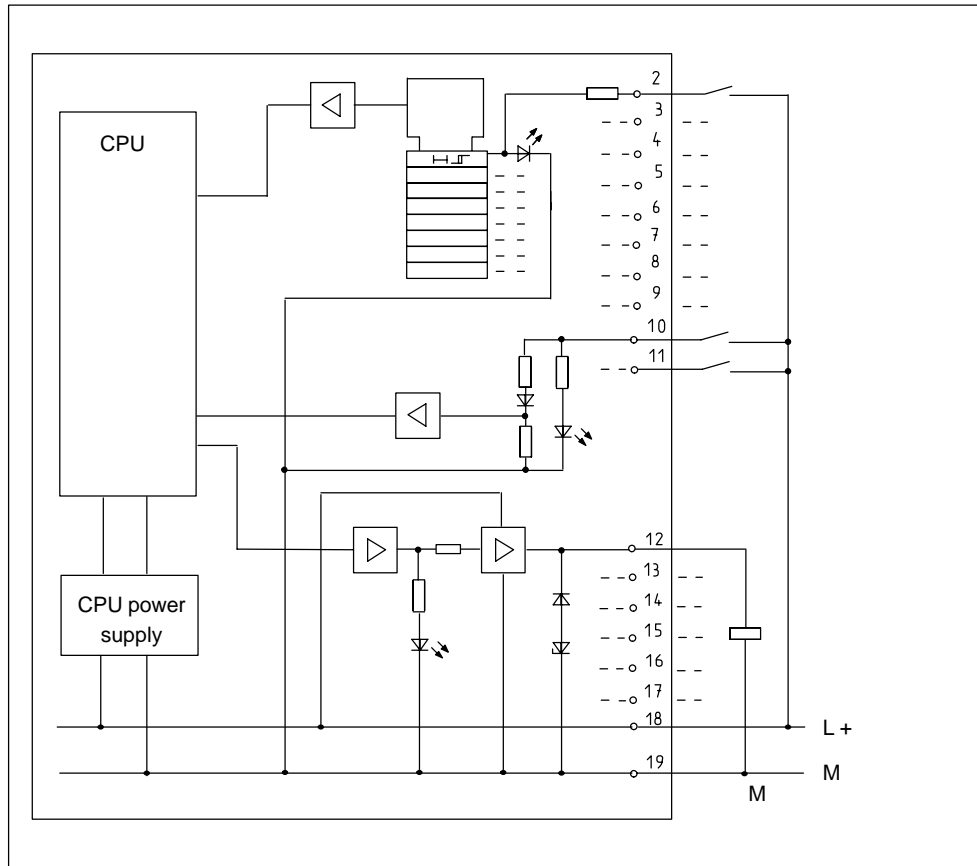

Figure 1-8 Basic Circuit Diagram of the CPU 312 IFM
You can use the CPU 312 IFM in a grounded configuration only. In the CPU 312 IGFM, system ground is connected internally to chassis ground (M) (see Figure 1-8, page 1-36).
Figure 1-8 shows the block diagram of CPU 312 IFM.